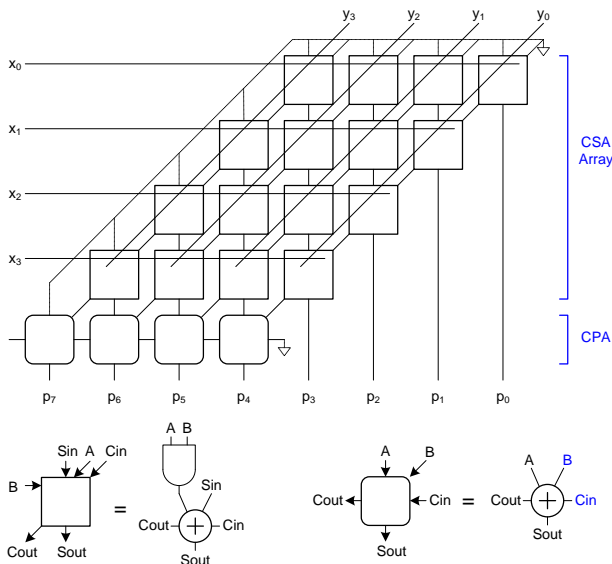

Fig. 10
10. Consider the 4-bits array multiplier as shown in in Fig. 10. For CSA block, the C_{in} -to- C_{out} delay = 2ns. For CPA block, C_{in} -to- C_{out} delay = 6ns. (5%)